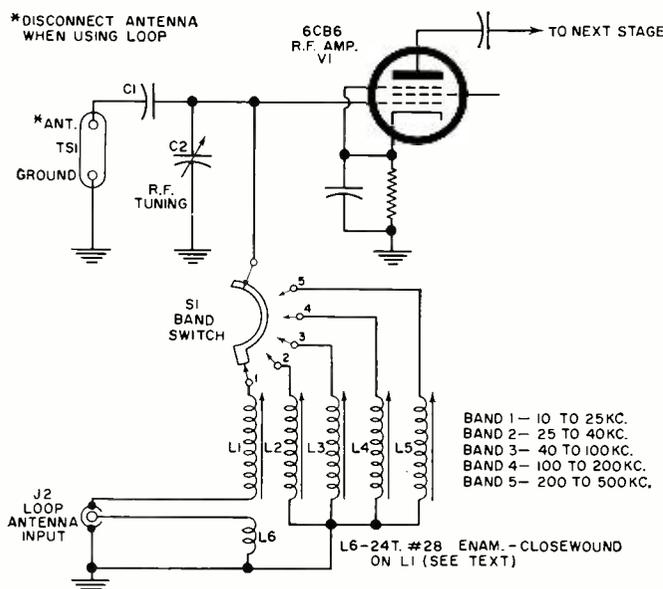

Fig. 5. Circuit modification to the author's v.l.f. converter.
Fig. 5. How reverse grid current (A), due to gas in this case, is developed. Values of grid resistors in such tuned circuits as i.f. stages (B) influence gain and bandwidth.
Impedance matching to the converter or receiver with which the loop antenna is to be used can be accomplished in a number of ways. A satisfactory match to the author's converter was made by winding 24 turns of #28 enameled wire on the converter v.l.f. coil *L1*, as shown in Fig. 5. The coupling loop is wound as close as possible to the original winding and on the slug adjustment side of the coil. The converter v.l.f. coil was remounted on the upper side of the